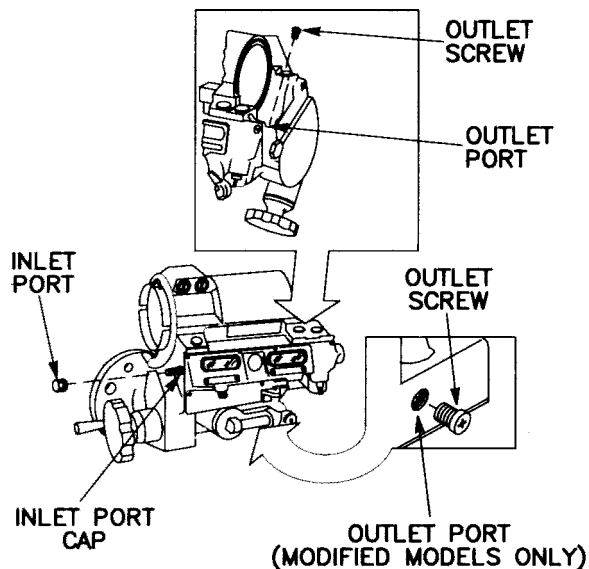

Figure 3-36 M14 and M14A1 Quadrants
a. Quadrant, M14 (fig. 3-36).
(1) Perform purging and charging procedure para 2-5.b.
(2) Purge instrument at 5 psig for 5 minutes.
(3) Charge instrument at 1 psig for 10 seconds.
(4) Leak test for minimum of 5 minutes.
b. Quadrant, M14A1 (fig. 3-36). Refer to para 3-11.a. for procedures.